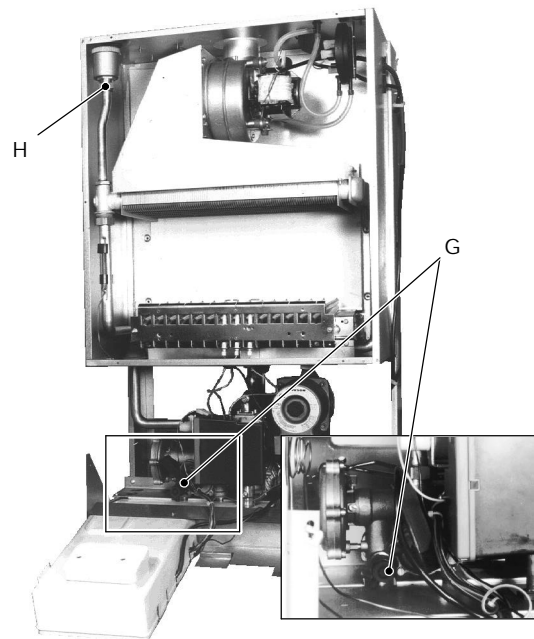

fig. 10
- 2 Open the draining tap *G* (fig. 10) until the boiler is completely emptied.
To facilitate the downflow of water, remove the front panel, also remove the sealed chamber cover and loosen the nut *H* (fig. 10) of the automatic air bleed valve.